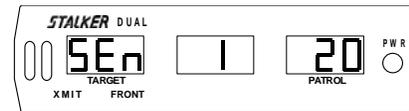

Fig 17
The range (or sensitivity) of **STALKER DUAL** is adjusted by pressing the **SEn** key. This key cycles through the four (4) sensitivity levels; **SEn 1**, **SEn 2**, **SEn 3**, and **SEn 4** (Fig 17 - Fig 20, respectively). In each case, the center display refers to the current sensitivity setting. The shortest range is **SEn 1** (Fig 17), and the longest range is **SEn 4** (Fig 20). The range (or sensitivity) must be set for same lane moving mode and opposite lane moving/stationary mode separately. While in each mode, (same lane and opposite lane), indicated by the presence or absence of the **SAME** icon, set each sensitivity as described above.